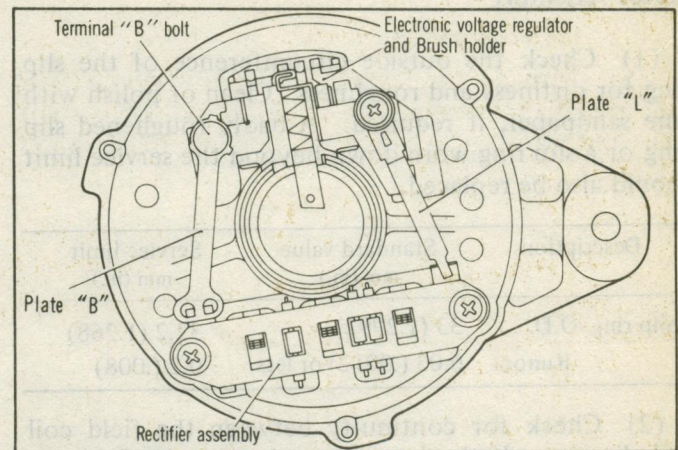
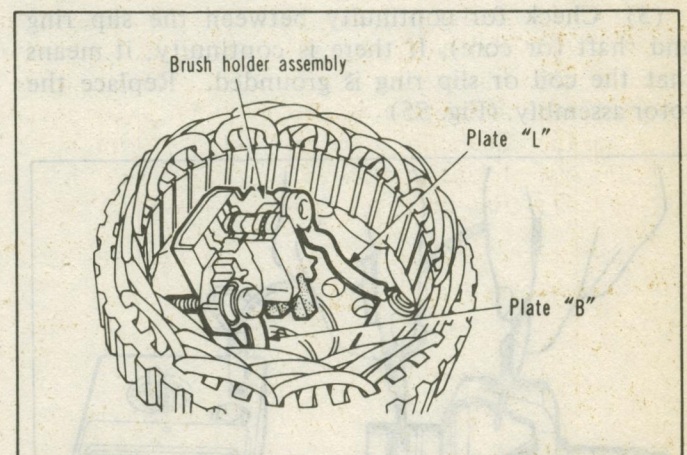

Fig. 52 Removing Regulator and Rectifier
Fig. 53 Replacing Brush
(4) Remove the condenser from the terminal "B"
(5) Unsolder the plates "B" and "L" from the rectifier assembly. (Fig. 52)
(6) Remove the mounting screw and terminal "B" bolt and remove the electronic voltage regulator and brush holder. The regulator and brush holder cannot be separated. (Fig. 52)
(7) Remove the rectifier assembly.
(8) Brush and brush spring replacement. When only a brush or brush spring is to be replaced, it can be replaced without removing the stator, etc. With the brush holder assembly raised as shown in Fig. 53, unsolder the pigtail of the brush.